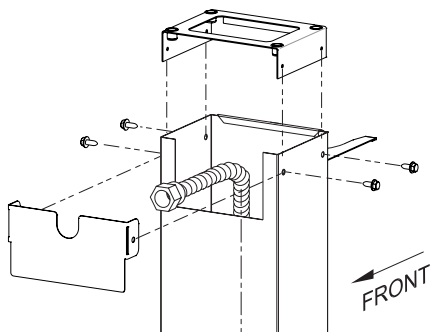

Figure 5
5. For R3 Series Grill Heads: Slide the Post Cover Plate onto the front of the post. Slide the Upper Bracket onto the post. Secure the Post Cover Plate and Upper Bracket to the top of the square post using four #10 - 1/2 Hex Head screws. See Figure 5.
For Grill Heads other than R3 Series: Slide the Upper Bracket into the post. Secure the Upper bracket to the top of the square post using four #10 - 1/2 screws. See Figure 5.